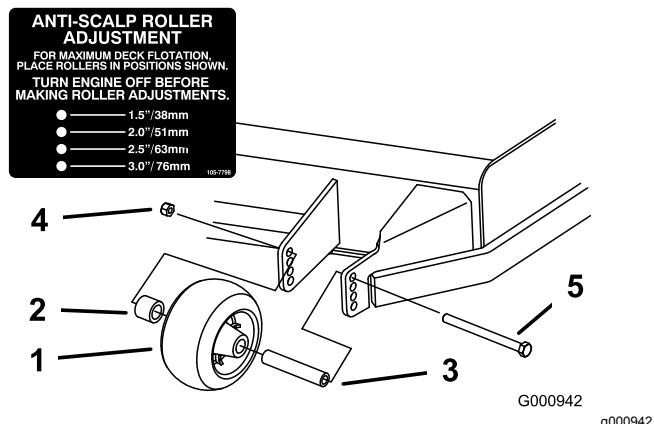
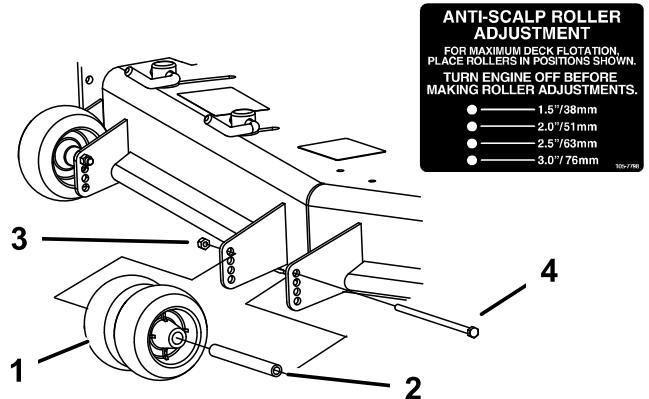

Figure 28
Figure 29
3. Adjust the anti-scalp rollers as shown in Figure 28, Figure 29, and Figure 30.